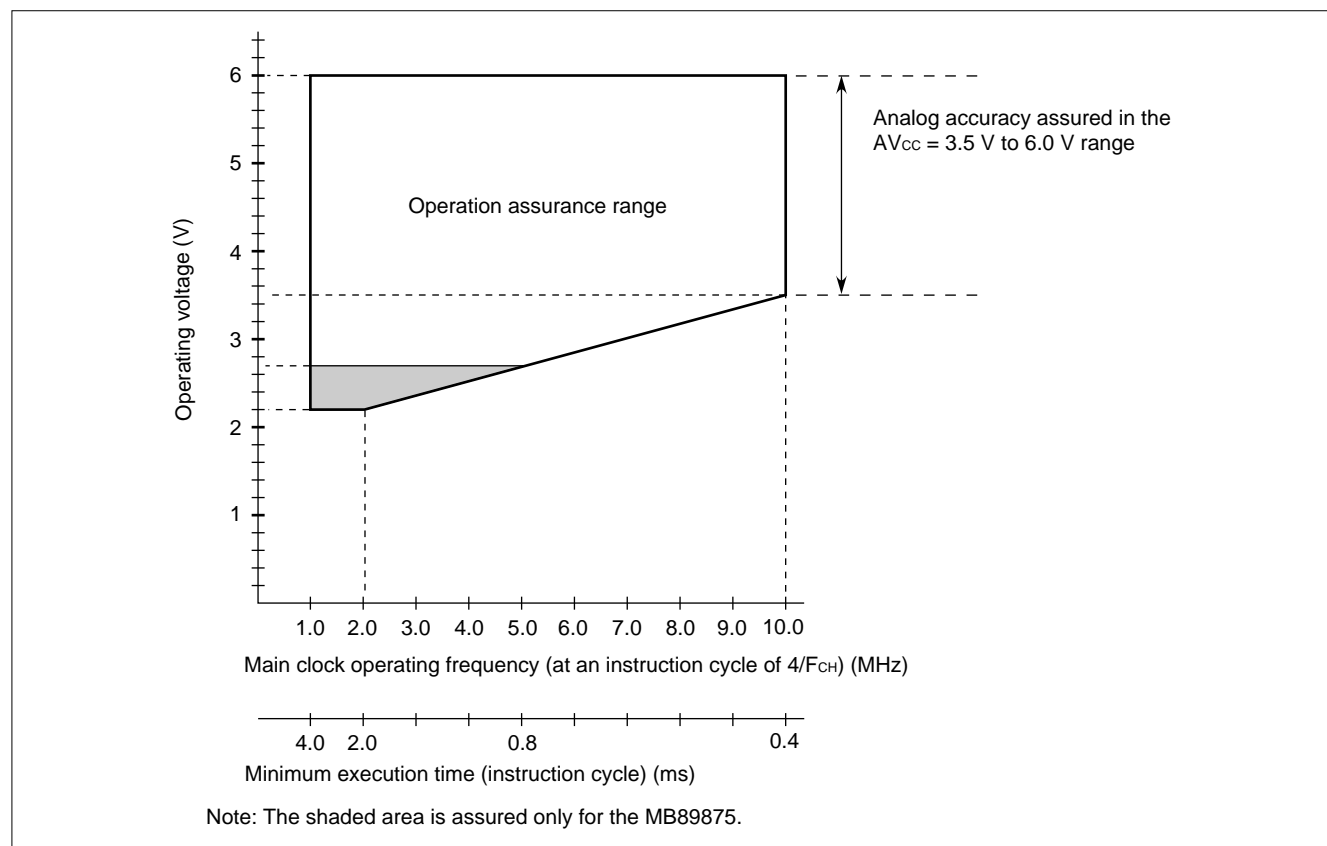

Figure 1 Operating Voltage vs. Main Clock Operating Frequency
* : These values vary with the operating frequency, instruction cycle, and analog assurance range. See Figure 1 and "5. A/D Converter Electrical Characteristics."
Figure 1 indicates the operating frequency of the external oscillator at an instruction cycle of $4/F_{CH}$. Since the operating voltage range is dependent on the instruction cycle, see minimum execution time if the operating speed is switched using a gear.